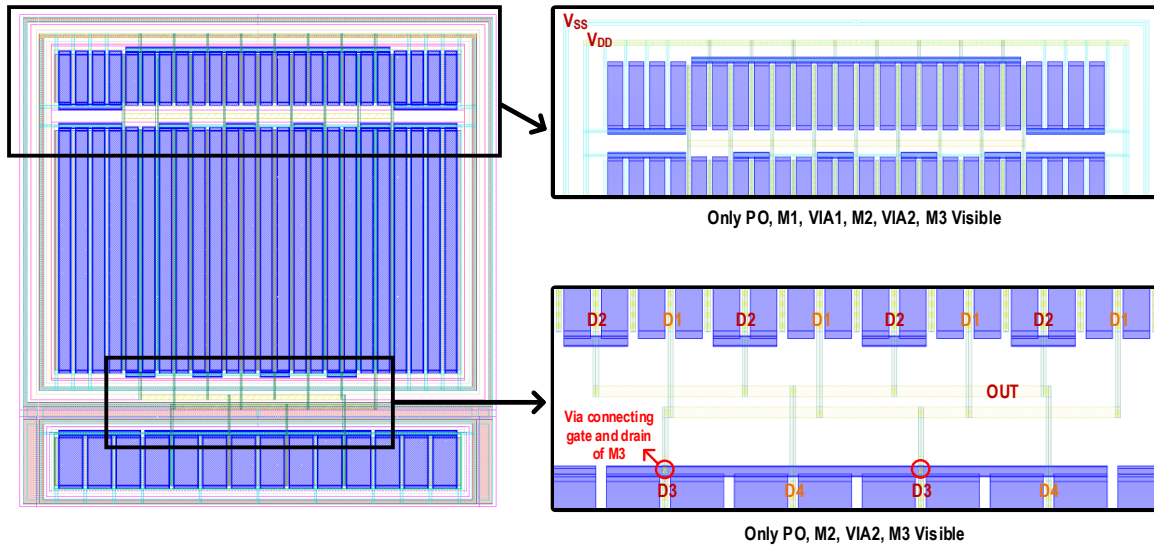

Fig. 12. OTA layout after routing
command (**O**). Now create 9 copies (**C**) with a 1.4 μm pitch and connect them using the M2 (drw) layer as shown in Fig. 12 (on the left).
- You can start by connecting the drains of M1/M2 to M3/M4 using the 3rd metal layer vertically and the 2nd metal layer horizontally. Refer to Fig. 12 to see how the drains have been connected.
At this stage, any connection should be completed. The resulting layout is shown in Fig. 12.